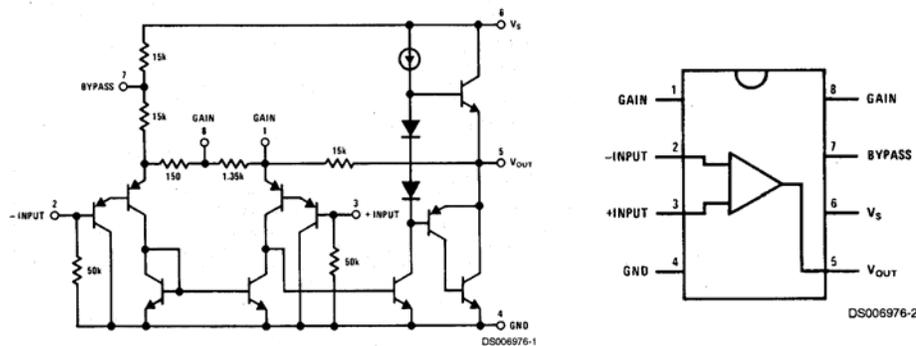
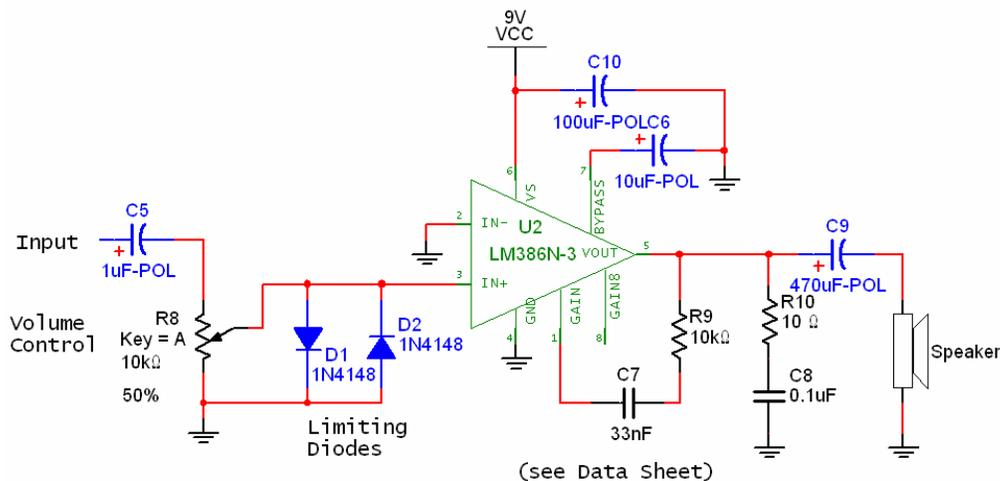

Figure 1-5 – LM386 internal circuit and 8-pin DIP pin assignments.
Figure 1-7 – Schematic of LM386 Amplifier.
At first glance this project looks simple; all we need is an amplifier to drive an audio speaker, right? Why not just use a simple op-amp gain stage? Well, one immediate challenge is that speakers have a low impedance, typically 8-Ohm. Even for a low-power 0.5W audio amplifier,  $P = I^2 R / 2$  requires that the amplifier must be able to source a peak AC current of around 350 mA with an 8-Ohm load. This is a lot more than a typical op-amp is designed to provide. For example, the LM358 and LF353 (two op-amps used in this lab) can source around 20-40mA at most. So we need a device that can handle higher currents. We also want a device that can be operated from a single supply voltage (a battery in this case). It is possible to make a suitable amplifier using an op-amp and a couple of external power transistors, but we went with a simpler solution, and chose a chip that was specifically designed as an audio driver, the LM386, shown in Figure 1-5.
The schematic for an LM386-based amplifier is shown in Figure 1-7. We will first construct this amplifier using your plastic solderless breadboard and bench power supply. Once you debug the circuit and demonstrate that it works properly, you will “hard-wire” it onto a vectorboard and power it from a 9V battery. The idea of breadboarding the circuit first is not to create more work! It is good practice in general, since it allows you to debug your design more easily, allows you to experiment with component values, and more importantly will help preserve your battery!
- First study the schematic carefully, and locate all the necessary parts in your kit. Find the LM386 chip and compare it with Figure 1-5 and the schematic in Figure 1-7 to correlate pin numbers with the circuit connections.